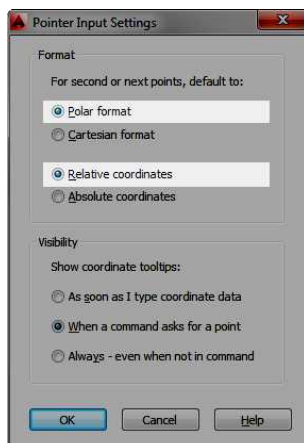

FIGURE 3.17: The Pointer Input Settings dialog box
3. In the Pointer Input group, click the Settings button to open the Pointer Input Settings dialog box (see Figure 3.17).